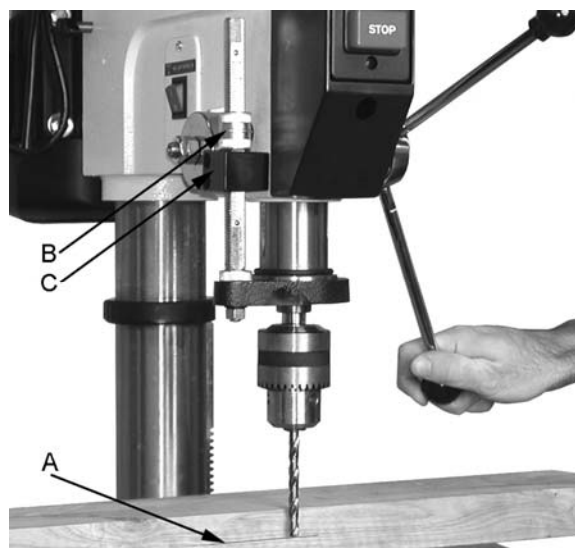

Figure 10
2. With the drill bit in the chuck, lower downfeed handle to advance bit to your mark (A, Fig. 10).
3. With your other hand, advance the lock nuts (B, Fig. 10) on the depth stop rod until they are snug to the seat (C, Fig. 10).